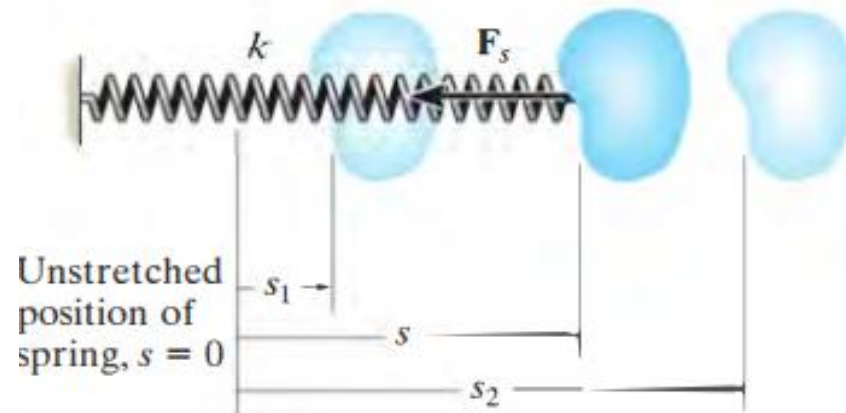

Figure 3. Work of force of spring
- In both cases the work will be negative since the displacement of the body is in the opposite direction to the force, Fig. 3. The work is